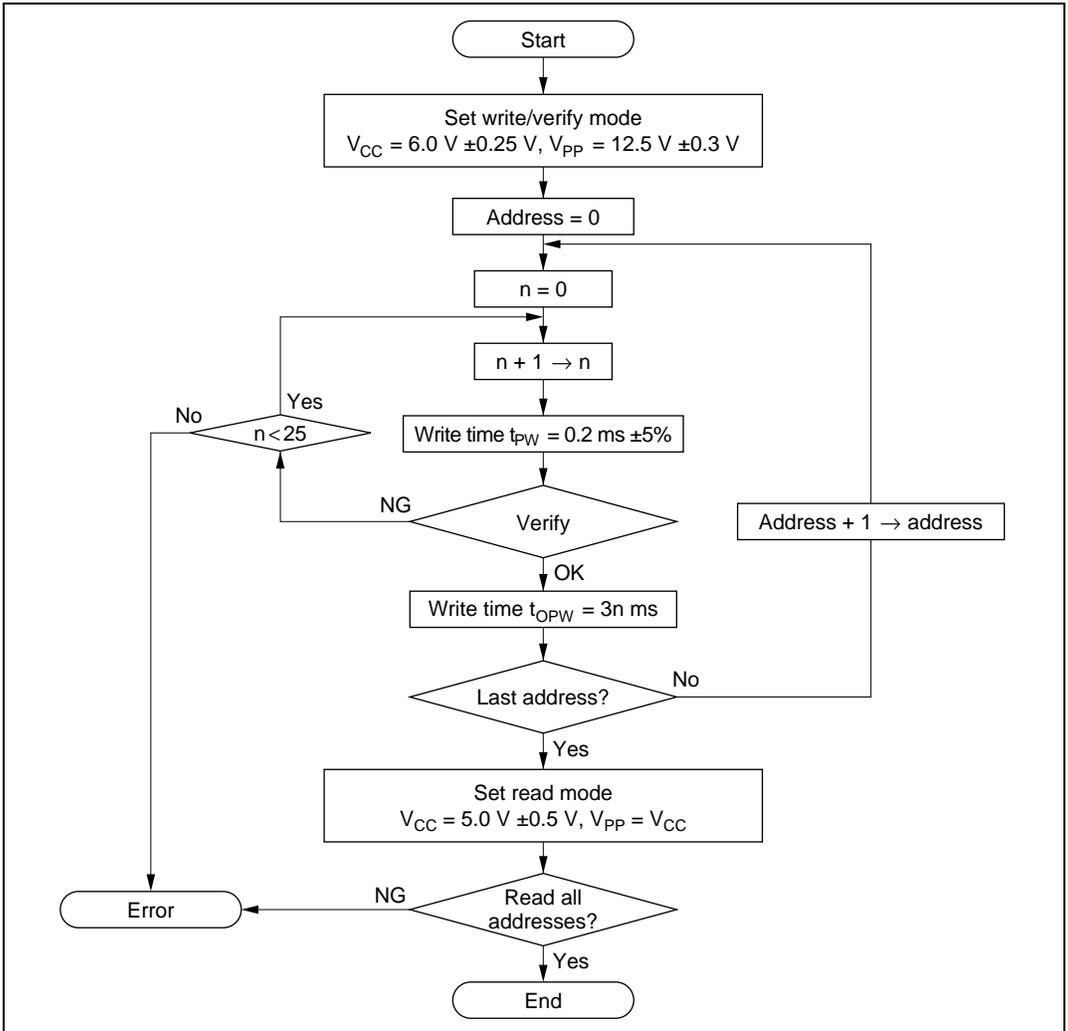

Figure 6.3 High-Speed, High-Reliability Programming Flow Chart
An efficient, high-speed, high-reliability method is available for writing and verifying the PROM data. This method achieves high speed without voltage stress on the device and without lowering the reliability of written data. Data in unused address areas has a value of H'FF. The basic flow of this high-speed, high-reliability programming method is shown in figure 6.3.
- t_{OPW} is defined by the value given in figure 6.3, High-Speed, High-Reliability Programming Flow Chart.